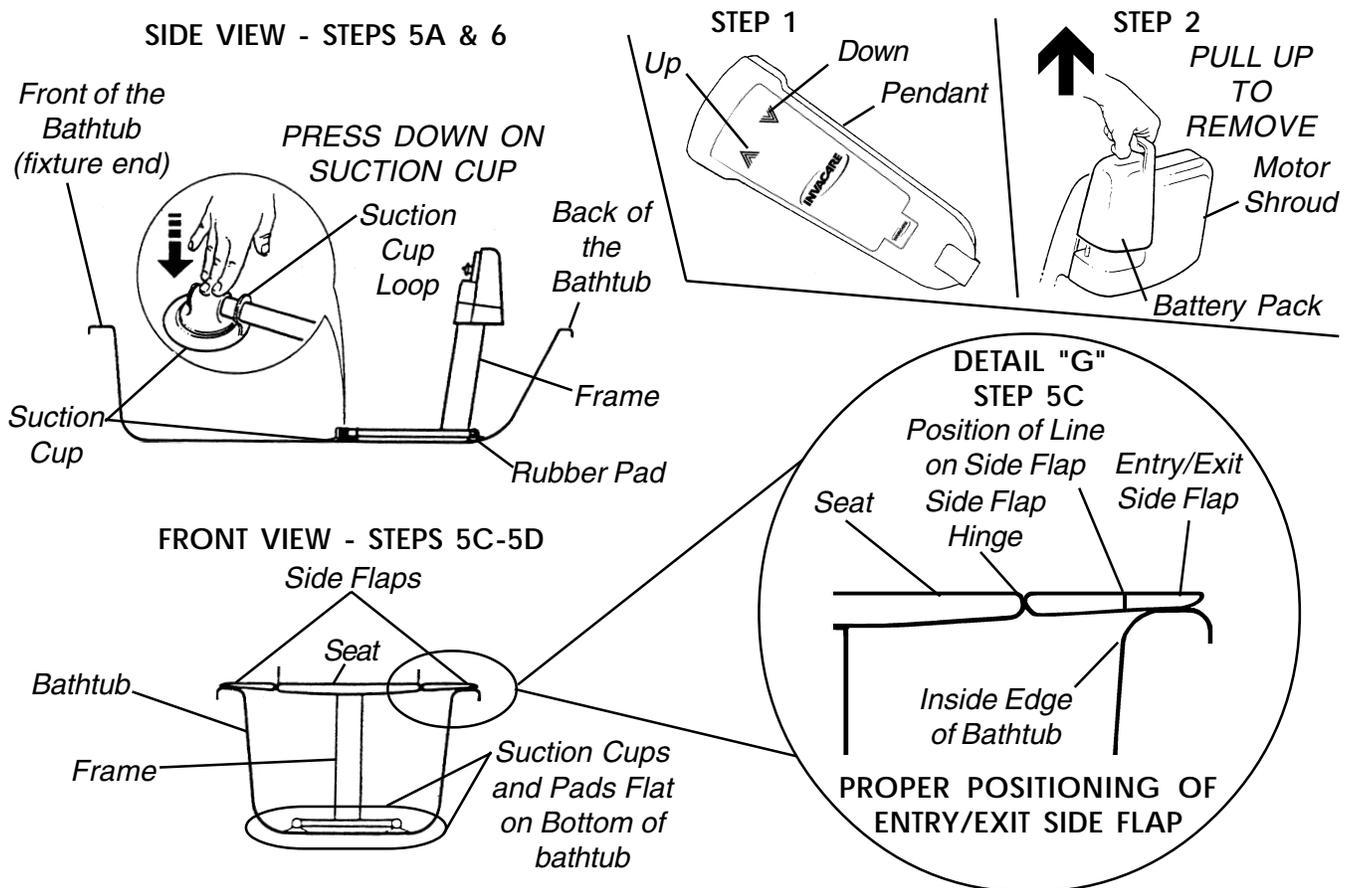

FIGURE 9 - INSTALLING THE BATH LIFT INTO THE BATHTUB
### Installing the Bath Lift into the Bathtub (FIGURE 9)
3. Grasp the handgrip on the battery pack and pull upwards to remove it from the motor shroud as shown in FIGURE 9.
- C. Position the frame to align the line on the entry/exit side flap with the inside edge of the bathtub as shown in DETAIL "G" of FIGURE 9.